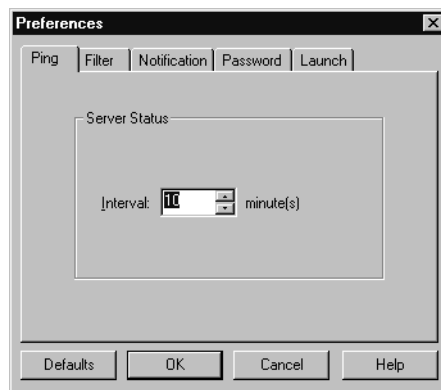

Figure 3-10. Preferences Dialog Box - Ping Tab
- 1 Click  to open the Preferences dialog box, as shown in Figure 3-10.